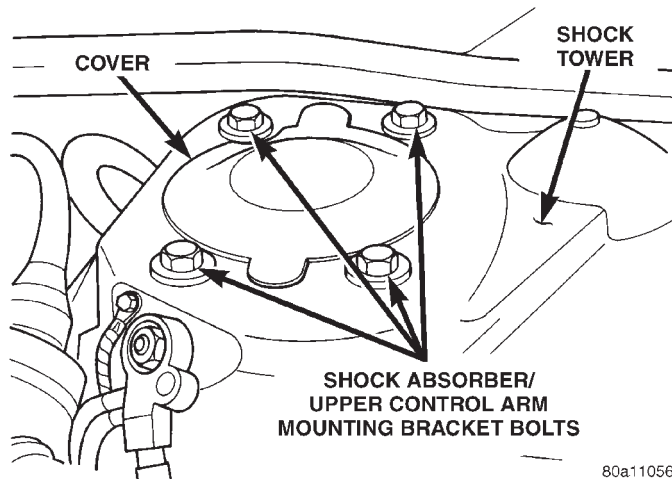

Fig. 8 Shock Absorber Attachment To Shock Tower
- (11) Remove the 4 bolts (Fig. 8) attaching the shock absorber/upper control arm mounting bracket to the shock tower of the vehicle.
(1) Install the shock absorber assembly, with the clevis removed, into shock tower. Aligning the 2 locating pins and the 4 mounting holes on the upper control arm shock absorber mount with the 4 holes in shock tower. Install the 4 upper control arm mount to shock tower mounting bolts (Fig. 8). Tighten the 4 bolts to a torque of 95 N·m (70 ft. lbs.).